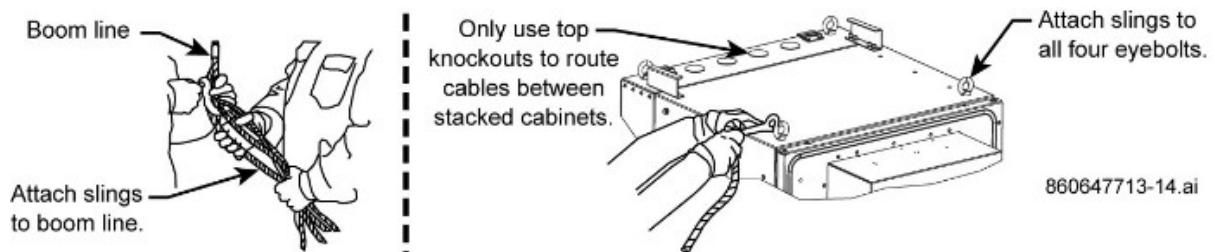

Figure 15. Attach Slings to the Boom Line and Cabinet Eyebolts
1. Remove cabinet rear panel and use all four eyebolts to lift the cabinet, Figure 15
2. Attach four slings of sufficient length for safe operation to boom line with a B connecting link or clevis and fasten other ends of slings to each eyebolt with a B connecting link or clevis, Figure 15.